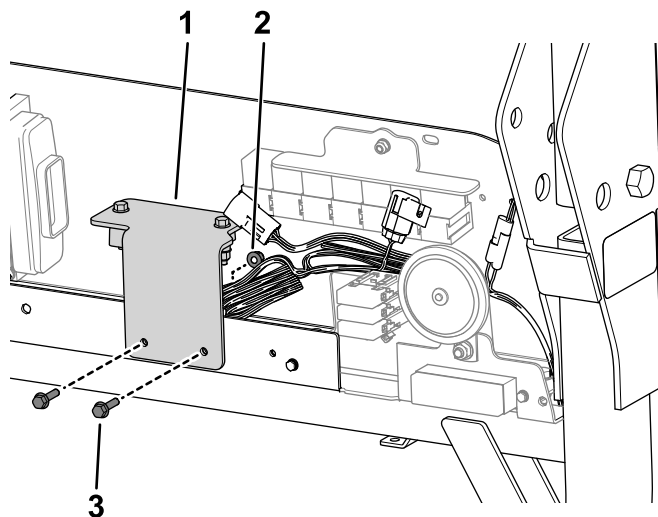

**Figure 9**
12. Use 2 bolts (M6 x 35 mm) and 2 flange nuts (M6) to secure the slope sensor to the slope-sensor mount (Figure 9).